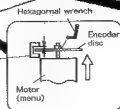
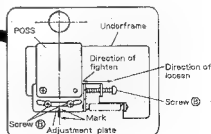
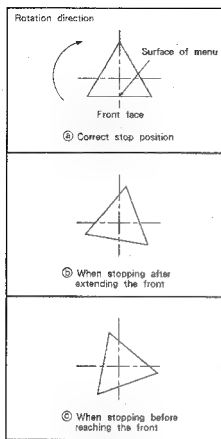

Fig. 7-2
Fig. 7-3
Fig. 7-4
- Loosen screw ① which holds the encoder disc using a hexagonal wrench.
- Loosen screw ② which holds the adjustment plate.
- (1) Set the gap between the encoder disc and photo interrupter of the motor (menu) to 1.2 mm. (Fig. 7-2)
- (2) Fix the screw of the encoder disc by tightening with a hex wrench.
- (3) Turn screw ③ so that the carved mark on the adjustment plate aligns with the underframe. Then temporarily tighten screw ④.
- (4) Push the ROTATE MENU key on the front panel of the main unit so that menu rotates. Then, perform the following adjustments depending on the condition. (Fig. 7-3)
- Loosen screw ④, then tighten screw ⑤ turning it clockwise.
- Loosen screw ④ and turn screw ⑤ counterclockwise to loosen it.
- (5) Turn the menu again and firmly tighten screw ④ when the menu stops directing its surfaces to the front. (Fig. 7-4 ⑥)
- (6) Finally, turn the menu and check that the menu stops directing all of its three surfaces to the front at every 120° rotation.